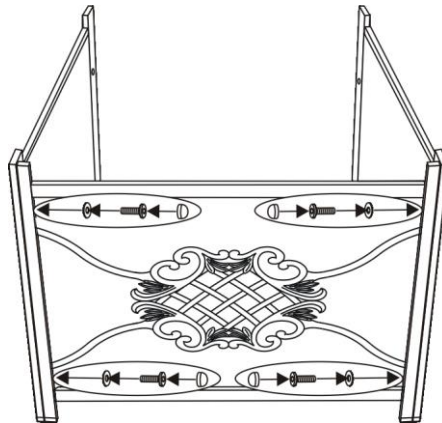

Figure 2
2. Attach the back panel to side panels by using four 1/4"x40 mm bolts and washers as shown in Fig.2. Guide bolts through holes in back panel, into pre-drilled holes in the side panels. **Hand tighten only.**